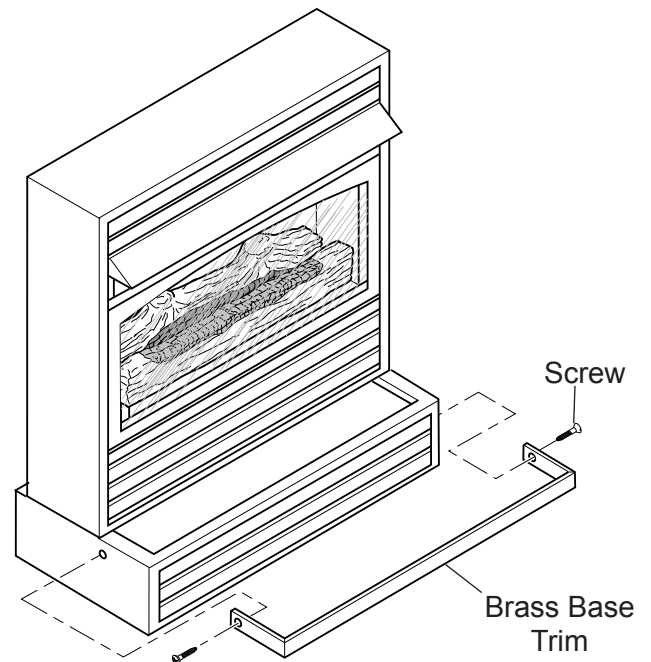

Figure 12 - Placing Hearth Insert on Heater Base and Attaching Brass Base Trim
6. Place hearth insert in hearth base as shown in *Figure 12*.
8. Slide base trim on heater base. Attach brass trim to base with two brass screws included as shown in *Figure 12*.